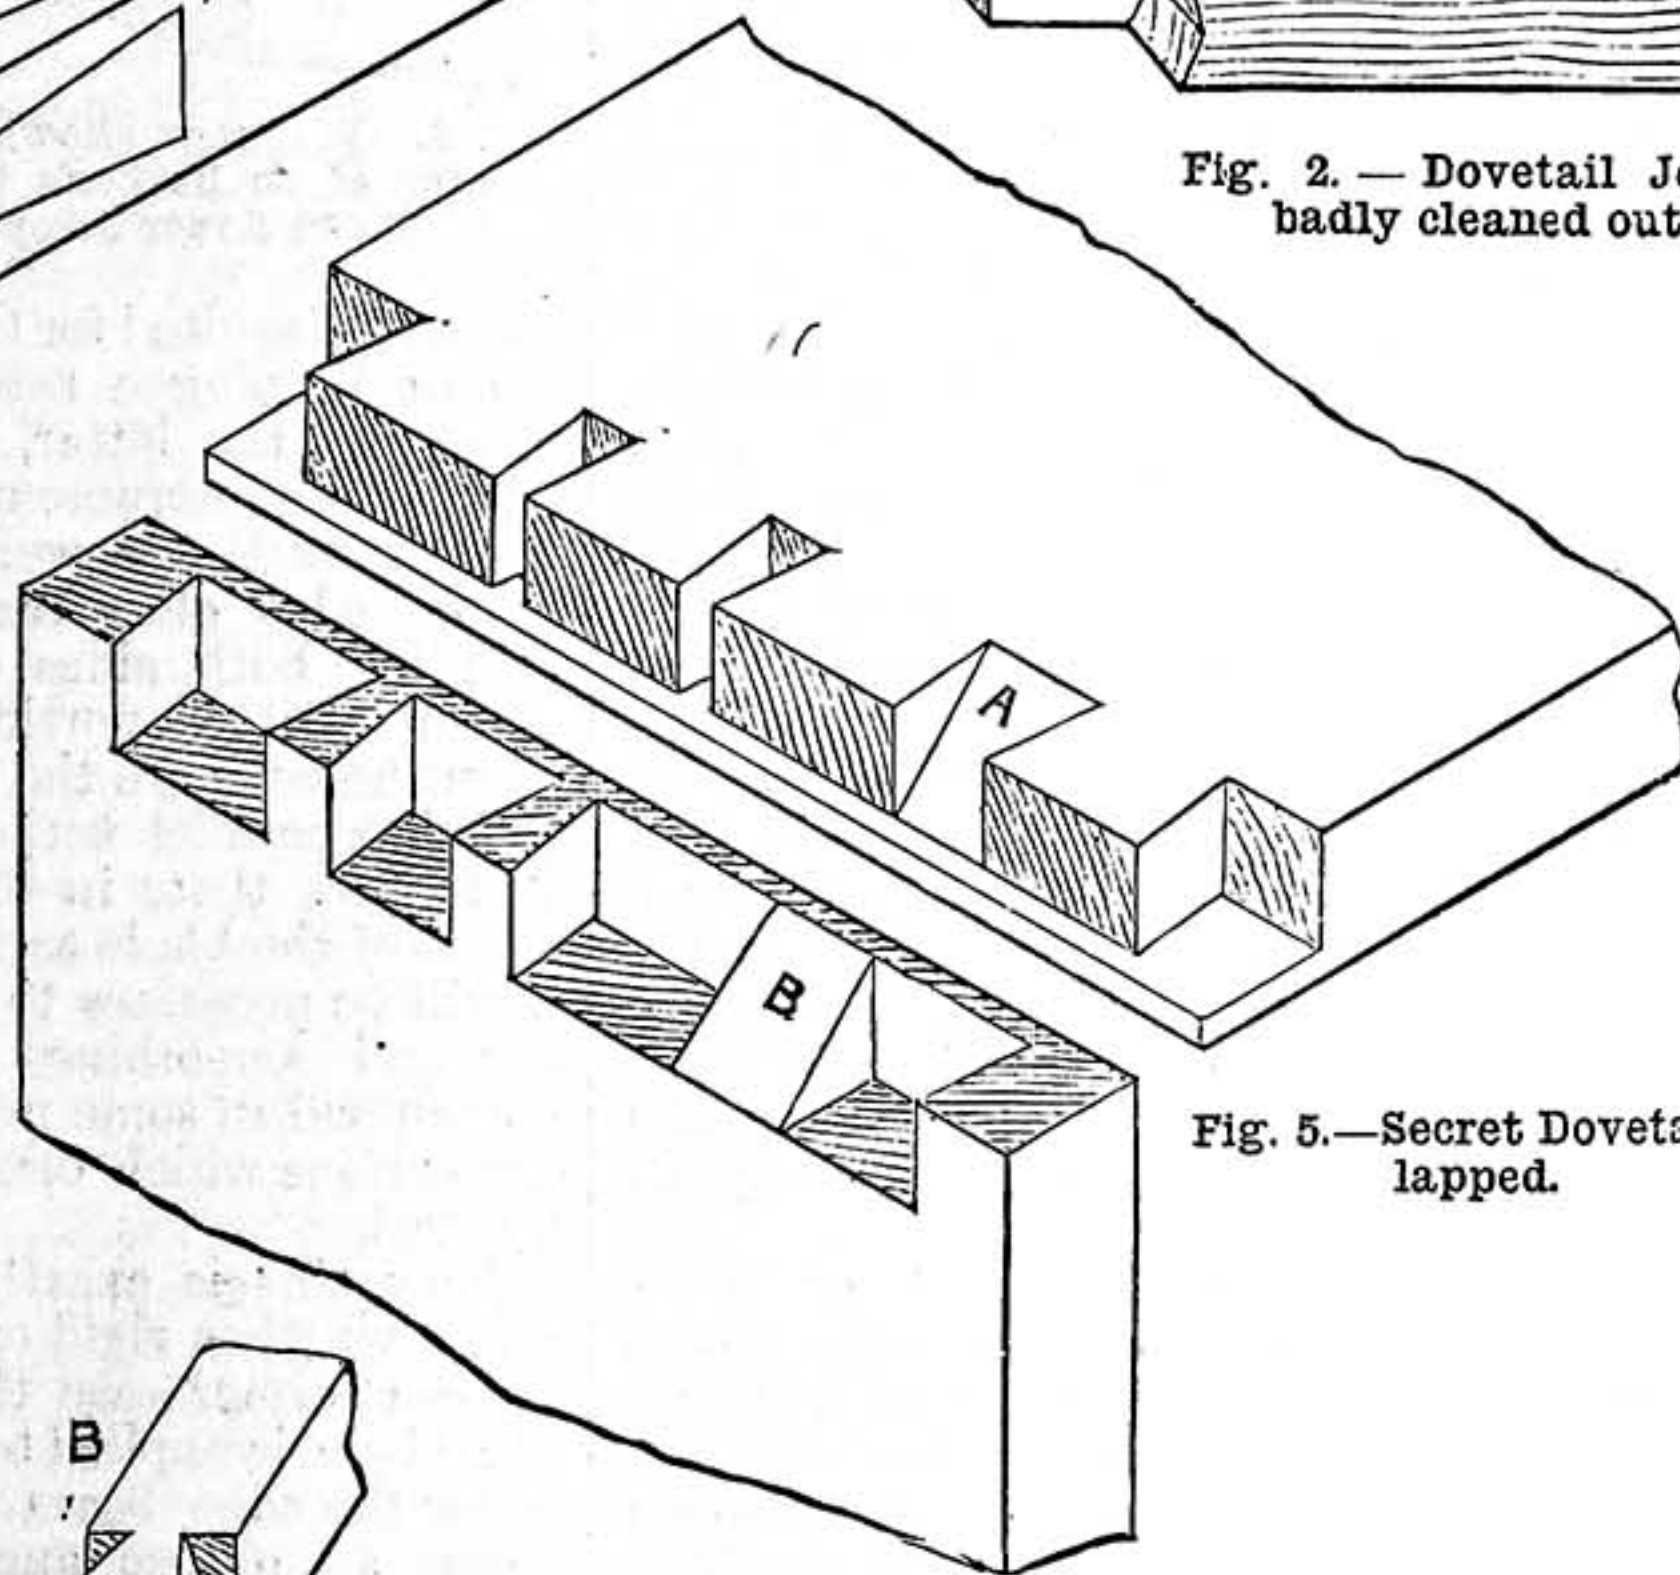

Fig. 5.—Secret Dovetail, lapped.
*Secret Dovetail, Lapped.*—Fig. 5 shows this joint, the end grain being almost concealed. The pin B is mitred, A being cut to correspond. This joint would be suitable for a work-box, the joint of the lid coming through B, so that when open it has the appearance of a mitred joint. This is a good form of joint, is more easily made than Fig. 6, and if, after gluing up, the edge be rounded, it equals it in appearance. In making this joint, first cut the pins, then the lap, and mark the sockets with the scriber.
*Secret Dovetail, Mitred.*—This joint (Fig. 6) is the most difficult to put together. The top pin is mitred right across, for the sake of appearance. In making this joint, both parts must have a lap or rebate cut on them, similar to the socket part of Fig. 5. Then the construction will be nearly the same, with the addition of mitreing.